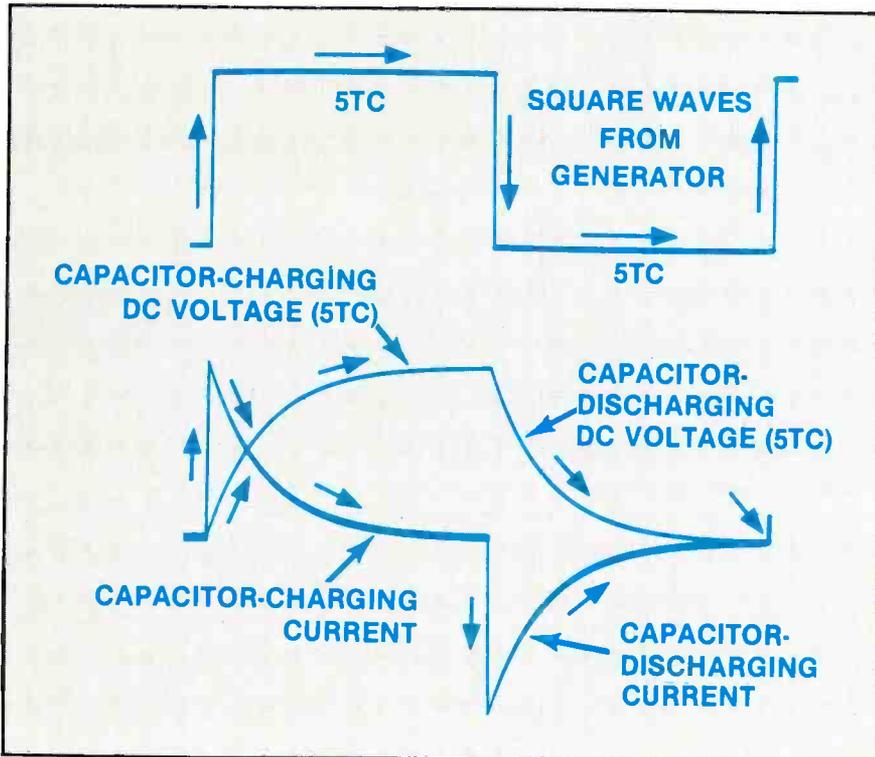

Figure 4. Voltage and current curves during five charging time constants and five discharging time constants are shown. Arrows show movement of the scope beam.
Figure 4 shows the relationships between voltage and current over 10 time constants. Repetition rate of the square waves and the precise time constant were chosen
**Figure 5.** Six lowpass filters show how square waves change as the time constant is increased in steps. Remember, these waveforms will resemble the voltage charging/discharging curves of Figure 4. (A) A 0.0005µF capacitance have a 10µs time constant and barely rounded two corners (marked with arrows). Watch these corners as the time constant is increased. 10µs with 200Hz square waves gave the same waveform as 500µs would at 4Hz. Also, the same waveshape can be obtained at 2000Hz with a 1µs time constant. (B) Increasing to 0.0028µF and 56µs time constant rounded the two corners even more. The same waveshape can be obtained with 500µs at 22.4Hz, and a time constant of 5.6µs would give the same waveshape at 2000Hz repetition rate. (C) With the time constant at 245µs, the curve begins to resemble the classic textbook time-constant curve of Figure 2. A rep rate of 98Hz would give the same waveform with 500µs TC. At 2000Hz, 24.5µs is needed for an identical waveshape. (D) A 500µs time constant provides 10 time constants (totaling 5000µs) and forms the classic voltage charging/discharging curves that are used in most explanations about time constants. No loss of output waveform height occurred in these four examples because full voltage was attained before the end of the positive peak. The same 2000Hz waveshape can be obtained with a 50µs time constant. (E) A long 1340µs time constant slowed the rise of charging voltage until the positive peak had passed, thus the height is reduced to 72% of the input amplitude. The same waveshape can be obtained at 536Hz with a 500µs time constant, or at 2000Hz with a 134µs time constant. (F) Increasing the time constant to 4240µs produced a triangular waveshape having almost perfectly straight lines. The actual amplitude relative to the input signal is shown by the center trace, while the lower trace has had the amplitude increased by increasing the scope gain. Such strong filtering also produces huge phase shifts when sine waves are used to replace square waves. A rep rate of 1696Hz produces the same waveshape with a 500µs time constant. Also, 2000Hz with 42µs gives an identical waveshape. (G) The lowpass-filter schematic is similar to the test setup in Figure 1 with square waves used instead of a dcV source. (H) These are actual frequency response readings of the six TC filters. They show the areas where maximum phase shifts occur (attenuation of 1dB or more).